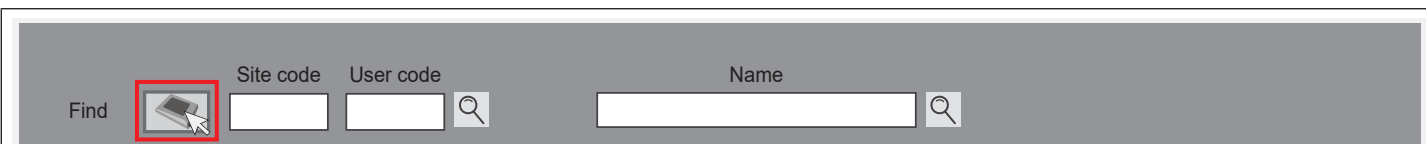

Fig. 63
- First click on the desktop prox icon to the left of the **site code** field at the top of the prox screen, as shown in **Fig.63**.